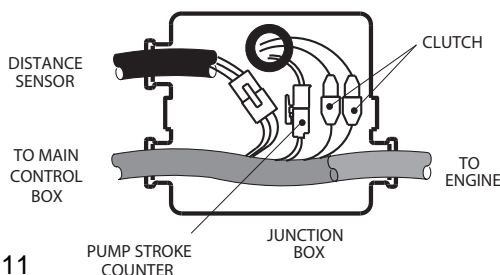

Fig. 11
- 3 Fig. 11. Disconnect pump stroke sensor and clutch cables.
- 7 Fig. 11. Connect pump stroke sensor and clutch cables.
- 3 Fig. 11. Disconnect all necessary wiring.
- 3 Fig. 11. Connect all necessary wiring.